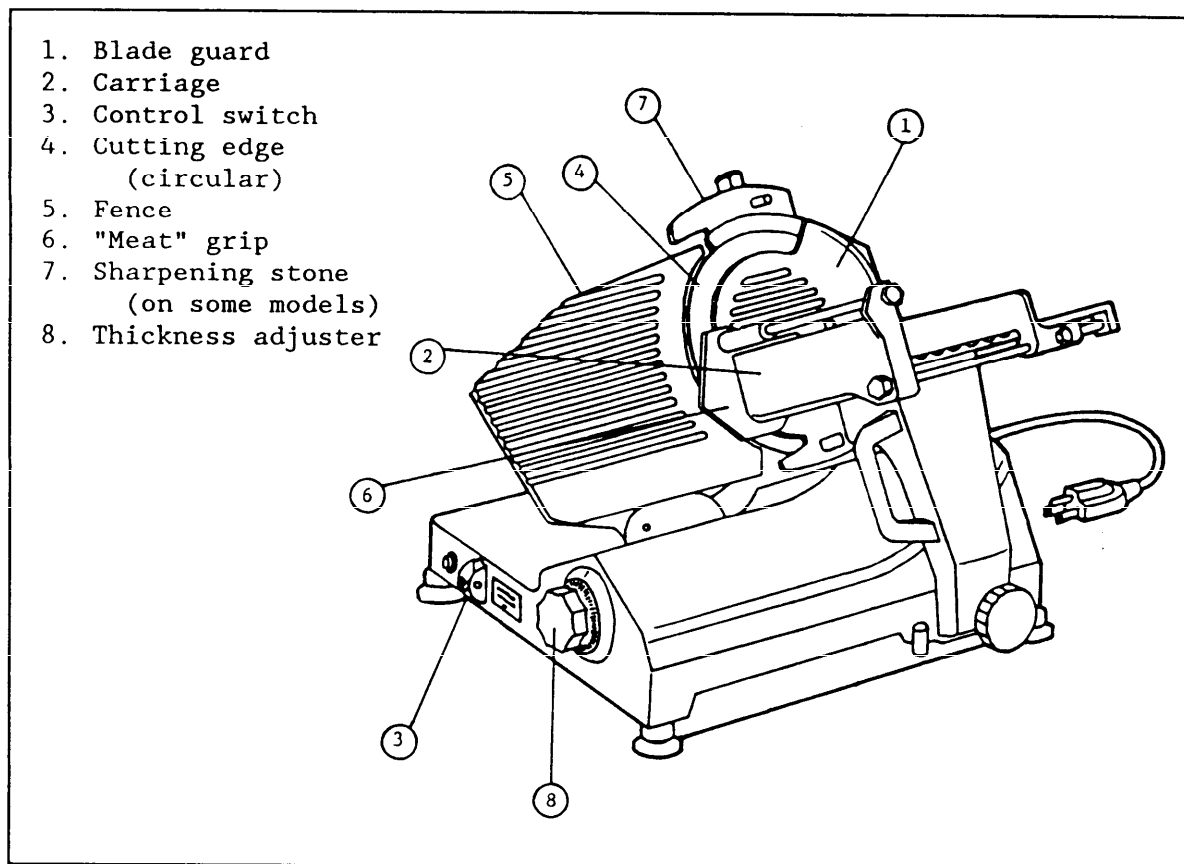

Figure 5
3.7.2 Major Slicer Components. Major slicer components include the motor and the components listed in Figure 5.